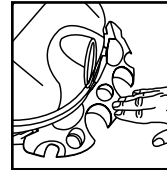

FIGURE 10
11. Press down on center of tool holder until tab latches on bottom of lid. **FIGURE 10**.